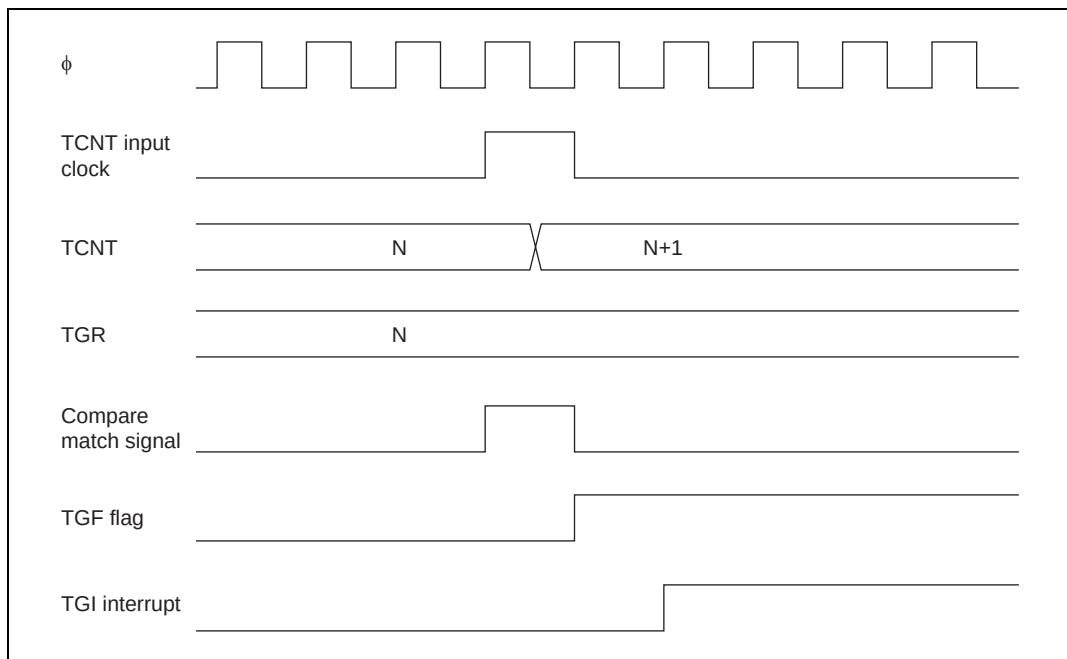

**Figure 9.42 TGI Interrupt Timing (Compare Match)**
**TGF Flag Setting Timing in Case of Compare Match:** Figure 9.42 shows the timing for setting of the TGF flag in TSR by compare match occurrence, and TGI interrupt request signal timing.